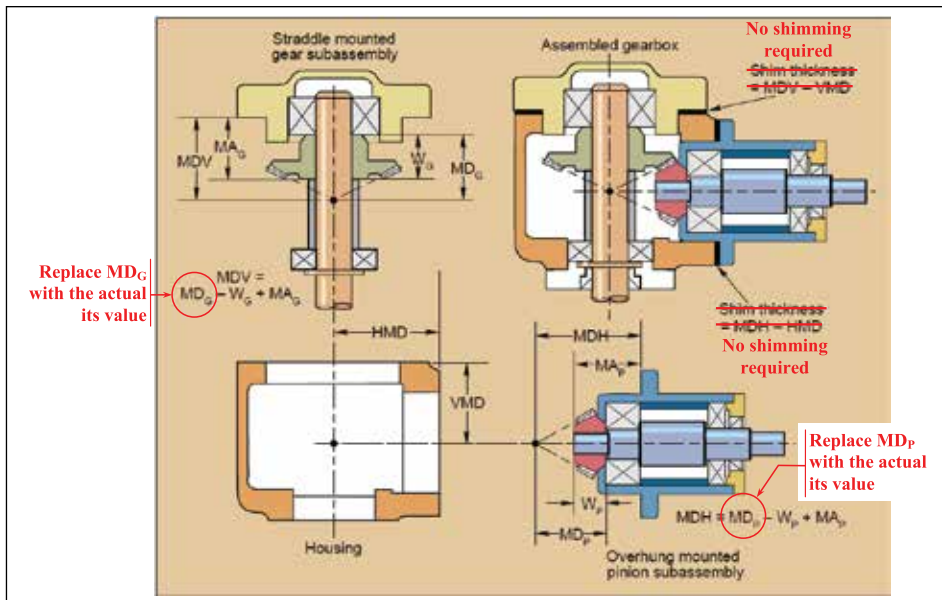

Figure 8: Measurements recommended in [15] for mounting both overhung and straddle-mounted bevel gears in a typical gearbox.
With that said, it is the right point to proceed with a discussion of a nowadays practice to specify and inspect the mounting distance in intersected-axes, and in crossed-axes gearing. The current practice is outlined in [15] and is illustrated in Figure 8. The procedure for assembling the bevel gears in this gearbox by the measurement method is as follows [15]:
6. Calculate the distance from shim mounting surface to crossing point for each subassembly (MDV and MDH): $MDV = MD_G - M_G + MA_G$ and $MDH = MD_P - M_P + MA_P$ correspondingly (Figure 8) [15].